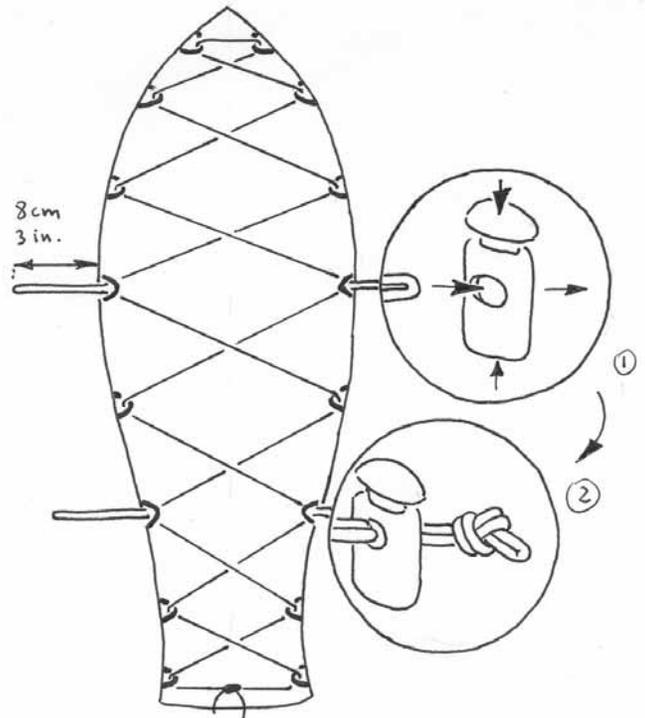

Figure 29
- A. Starting at the top of the insert and in the middle of the shock cord, thread the shock cord through the loops on either side as shown on **Figure 29**.